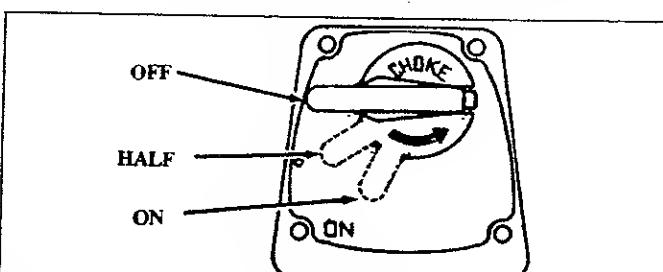

Figure 8
- a. Move Choke to "On" position. Figure 8.
- d. Move Choke to "half" position. Figure 8.
- f. Allow engine to run 5 seconds, then push Choke to "off" position. Figure 8. *Keep Trigger fully squeezed until engine runs smoothly.*
- a. Move Choke to "half" position. Figure 8.
- d. Move Choke to "off" position. Figure 8. *Keep Trigger fully squeezed until engine runs smoothly.*
**NOTE:** If engine does not run after 5 pulls, it is probably flooded. Wait a few minutes and repeat procedure with Choke at "off" position. Figure 8.
- b. Move Choke to "On" position. Figure 8.
- e. Move Choke to "off" position. Figure 8.
**NOTE:** If engine has not started, pull Starter Rope 5 more pulls. If engine still does not run, it is probably flooded. Wait a few minutes and repeat procedure with Choke at "off" position. Figure 8.